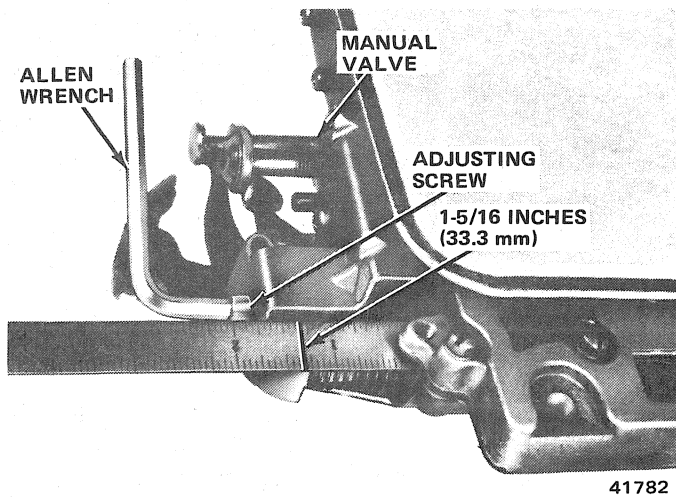

Fig. 2C-24 Line Pressure Adjustment
(1) Measure distance from valve body to inner edge of adjusting screw using accurate steel scale (fig. 2C-24).